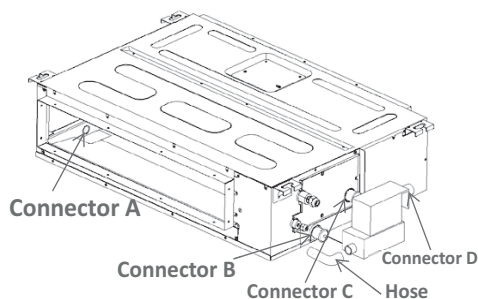

Fig. 31 — Condensate lift pump installation size 18K
- Connect the drainpipe to connector D (see Fig. 31).